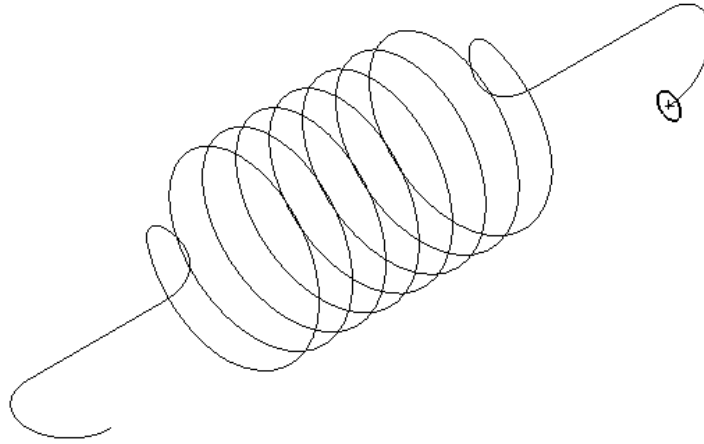

Figure 9-124 Profile and path of the sweep feature
- d. Create the profile on the plane normal to the curve and sweep the profile along the curve, refer to Figures 9-124 and 9-125.
3. Exit the sketching environment. Figure 9-124 shows the profile and path of the sweep feature.